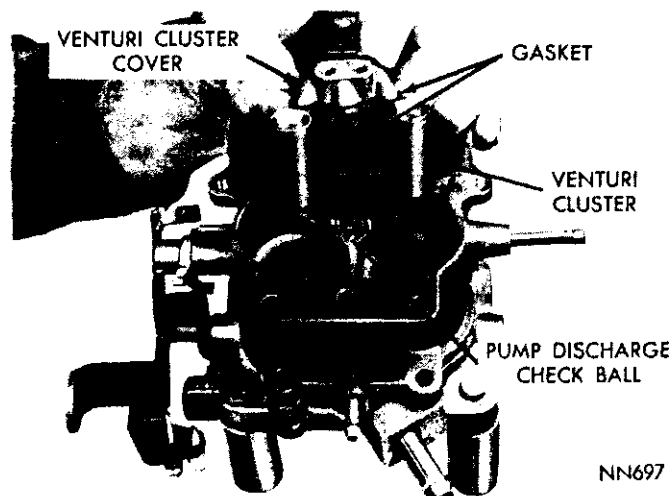

Fig. 7—Removing or Installing Venturi Cluster
(13) Remove venturi cluster screws, then lift venturi cluster and gaskets up and away from main body, (Fig. 7). Discard gaskets. **Do not remove the idle orifice tubes or main vent tubes from the cluster.** They can be cleaned in a solvent and dried with compressed air.
(14) Invert carburetor and drop out accelerator pump discharge and intake check balls.
(5) Install new gaskets on venturi cluster, then install in position in main body. (Fig. 7). Install cluster screws and tighten securely.